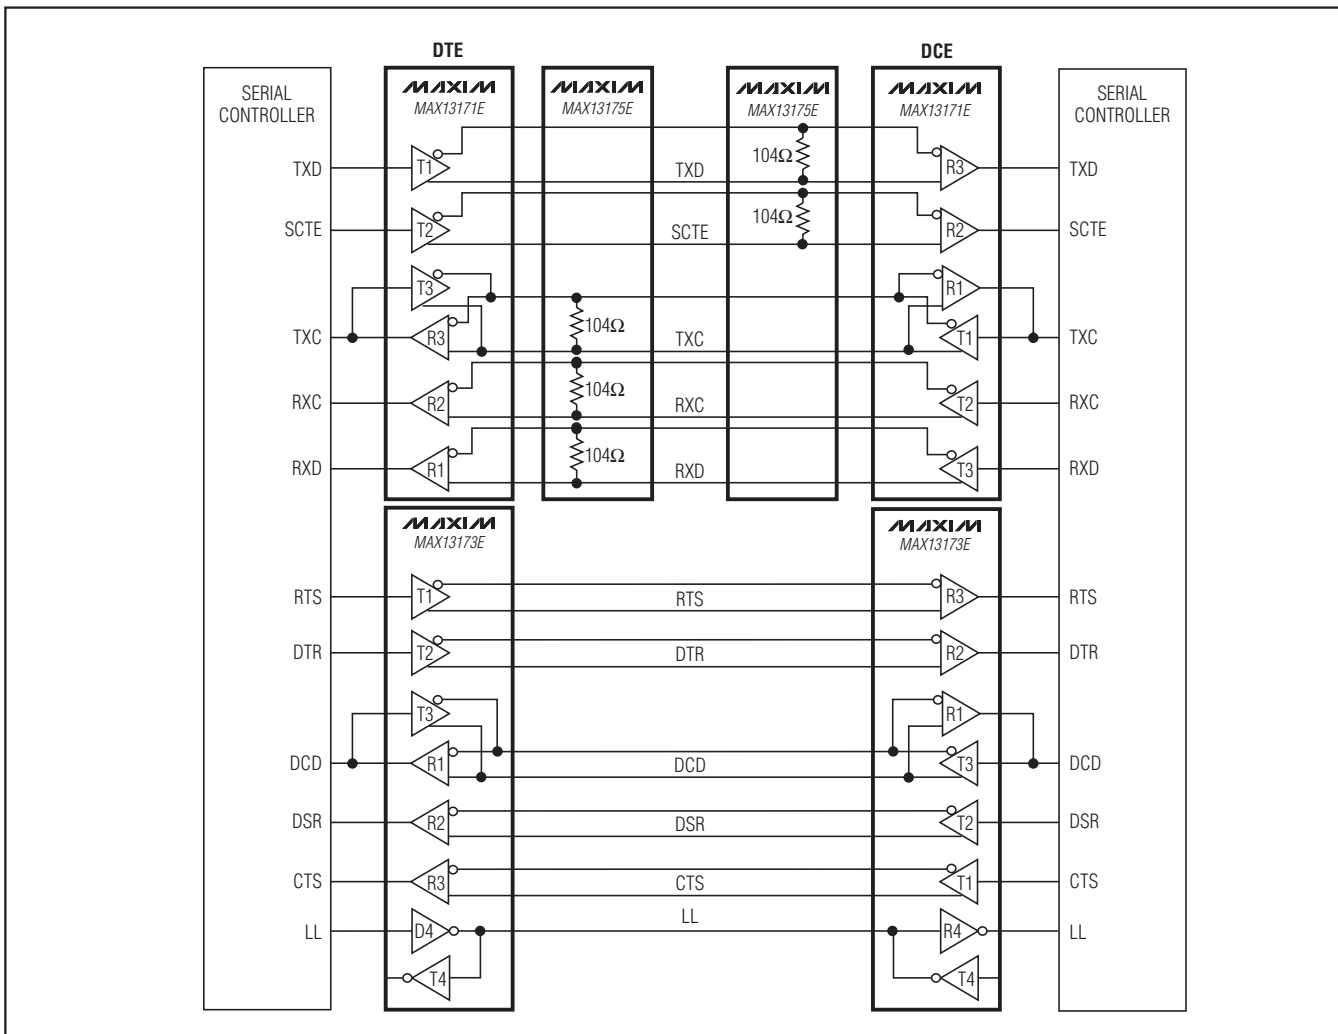

Figure 30. DCE-to-DTE X.21 Interface
A complete DTE-to-DCE interface operating in X.21 mode is shown in Figure 30. The MAX13171E is used to generate the clock and data signals, and the MAX13173E generates the control signals and local loopback (LL). The MAX13175E is used to terminate the clock and data signals to support the V.11 protocol for cable termination. The control signals do not need external termination.